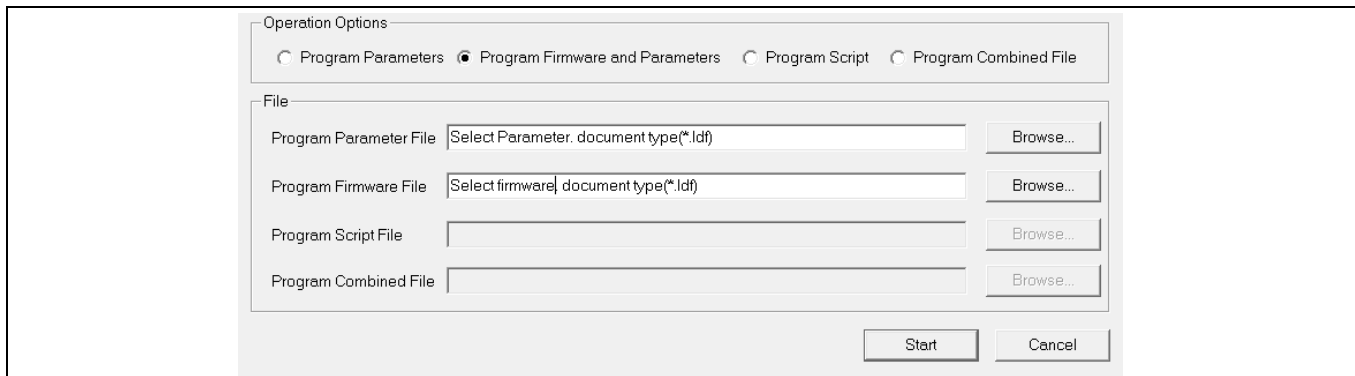

Figure 14 Program the parameters and firmware
- 5. Use the following steps to program the firmware and the parameters file to the internal Flash memory of iMOTION™ Control IC as follows: click on the system page, click “Tools” > “Programmer” and select “Program Firmware and Parameters,” as shown in Figure 14 below. Regarding the firmware and parameters file, browse and select the ‘.ldf’ and ‘.txt’ file prepared in Section 2.1.2.